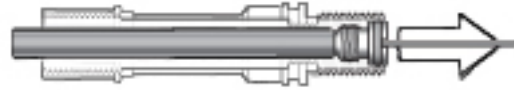

Figure 14 - Removal of crown
12. Turn the box bottom so that the squared end of the valve body faces downward, allowing the poppet (14) which contains the LP seat (15) to drop out. Lightly stick the center of the LP seat with a plastic or brass O-ring tool and lift the seat out, being very careful to avoid damaging the poppet. Discard the seat, and inspect the poppet for any nicks, scratches, or wear of the lever groove. The through-hole beneath the LP seat cavity should be clear and free of any obstructions. Discard the poppet or set it aside to be reused, depending on its condition.
13. While holding the box bottom secure, press against the squared side of the valve body to slide it back out. Grasp the valve body by the male threaded inlet and pull it completely out of the box bottom. Remove and discard the valve body O-ring (24), and set the box bottom aside.
14. While holding the valve body secure, apply a medium blade screwdriver to the slotted head of the crown (25), and turn the crown counterclockwise until its threads have completely disengaged from the valve body.
15. When the crown threads have been disengaged from the valve body, carefully insert the pin of the seat extraction tool (PN 109436) through the squared end of the valve body and through the opening in the center of the crown. Gently press the crown out (see Figure 14). Remove and discard the O-ring (26).